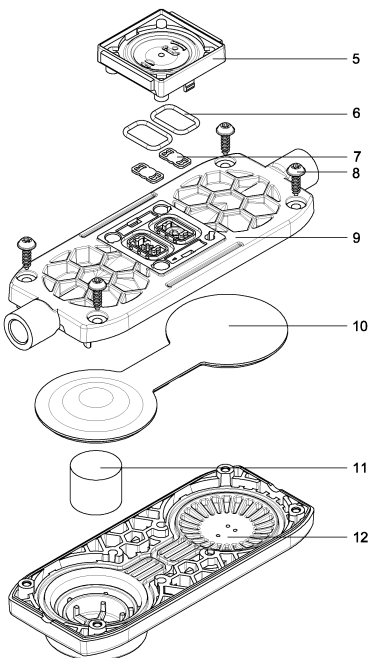

Figure 4
1. Undo the four head screws (1) and remove the complete head (2) from the pump housing (4).
2. Carefully grip the diaphragm (3) and remove by turning counterclockwise.
3. Rotate head (2) like shown in Figure 4.
4. Remove the intermediate plate (5) from the connecting plate (9).
5. Remove both O-rings (6) and both valves (7) from the connecting plate (9).
6. Undo the four damper screws (8) and remove them from the connecting plate (9).
7. Remove resonating diaphragm (10) and dampening element (11) from the head plate (12).
1. Insert the diaphragm (3) and tighten it well by hand.
3. Place the head plate (12) according to Figure 4.
4. Insert the dampening element (11) into the cylindrical part of the head plate (12).